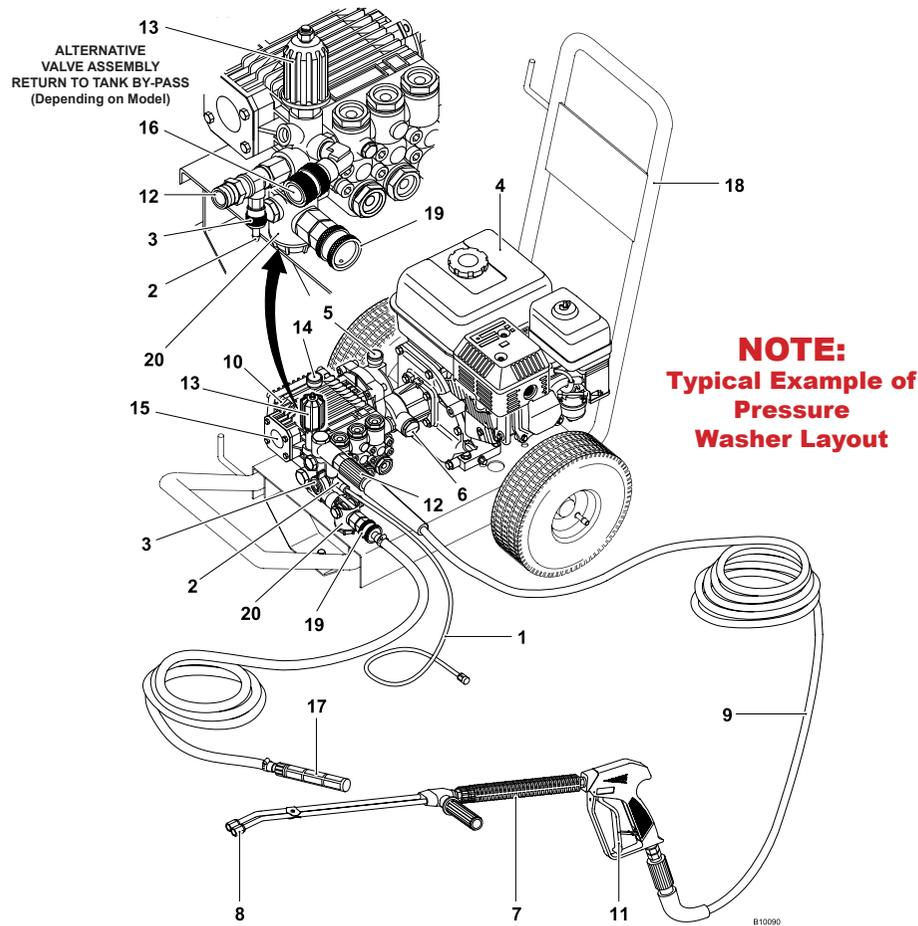
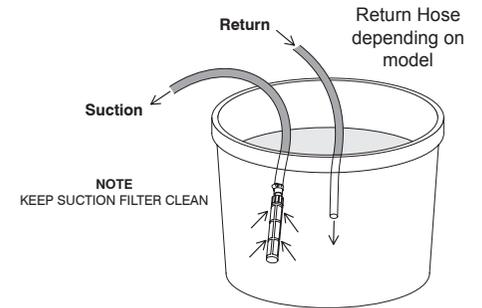

Fig 2 Description of main features
Fig 4. Submerge the suction hose.
6.2.3 Squeeze the trigger to start the high-pressure jet, proceed to wash the object. Adjust the working pressure by turning the pressure regulator knob + or - to suit the application (fig 2, item 13). Never direct the high-pressure stream at the engine or pump as this could cause irreparable damage.
Attach the detergent induction pipe to the power washer, (fig 2, item 1) placing the opposite filter end into the detergent container. Select the low pressure setting on the lance, (see appendix 1 for details of your lance) and spray the water/detergent mixture onto the object being cleaned. Leave the detergent for the period recommended by the chemical manufacturer allowing it time to work, washing off with clean water. The volume of detergent used can be controlled by means of the regulator on the suction valve (see fig 2. item 3).
4. Description of Main Features (fig 2)
- 5.5 Connect the water return line to its connector and place the other end in the water supply container. (Bypass to tank models only) (Fig 2 item 16 & Fig 4).
- 5.6 Submerge the opposite end of the suction hose and its suction filter in a suitable container containing the water supply (fig 4). Ensure the filter is always kept below the water level.